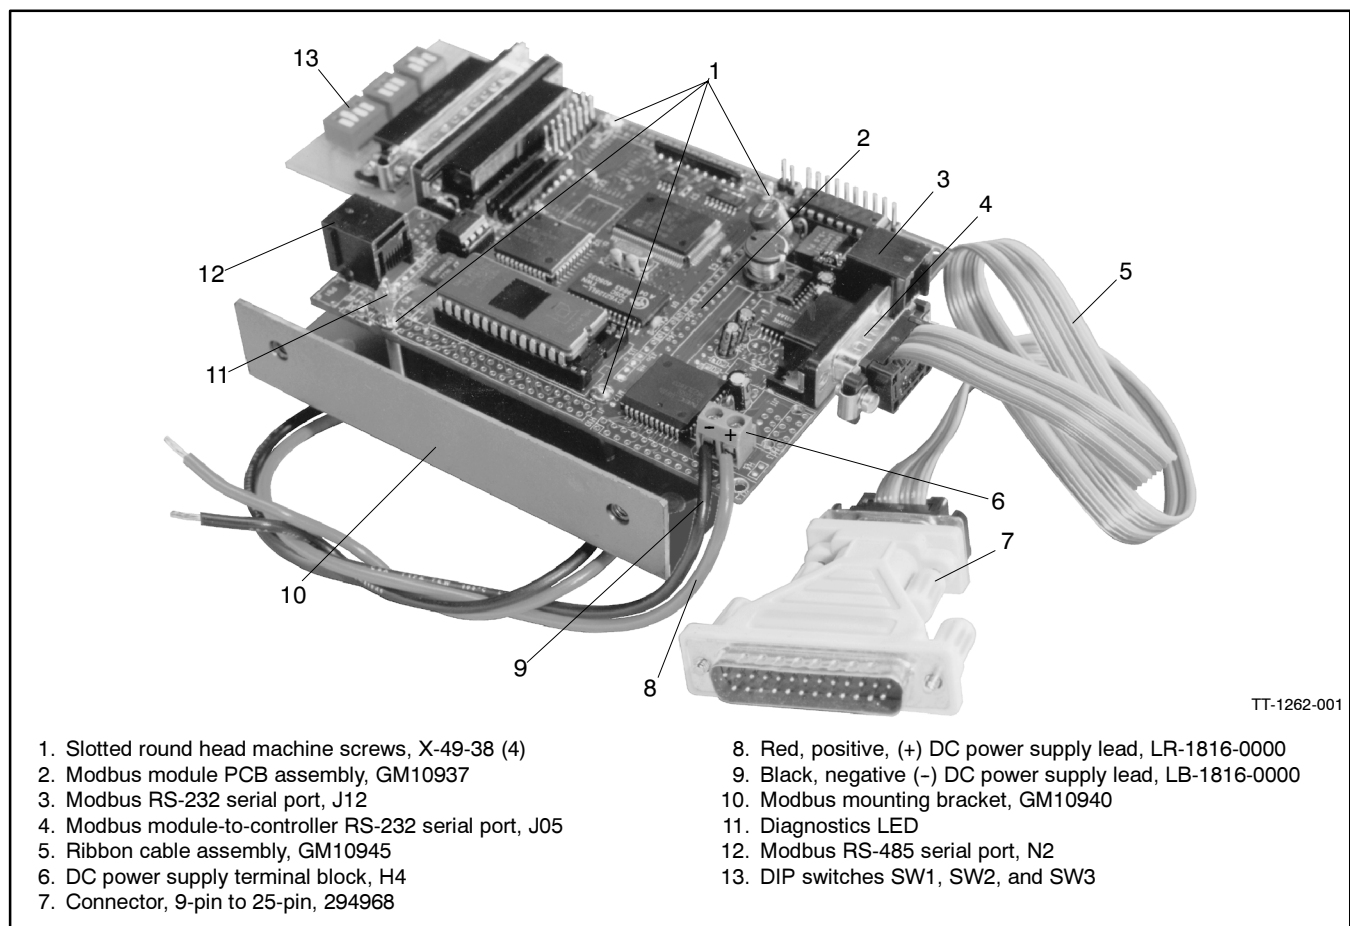

Figure 2-1 Modbus Module
1. Mount the Modbus module PCB assembly GM10937 on the mounting bracket GM10940 using 4 slotted round-head machine screws X-49-38. See Figure 2-1.
2. Connect the red, positive (+) and black, negative (-) DC power supply leads to the green terminal block H4 on the module. See Figure 2-1.
8. Connect the mating end of the ribbon cable assembly GM10945 to the module-to-controller RS-232 serial port J05. See Figure 2-1.